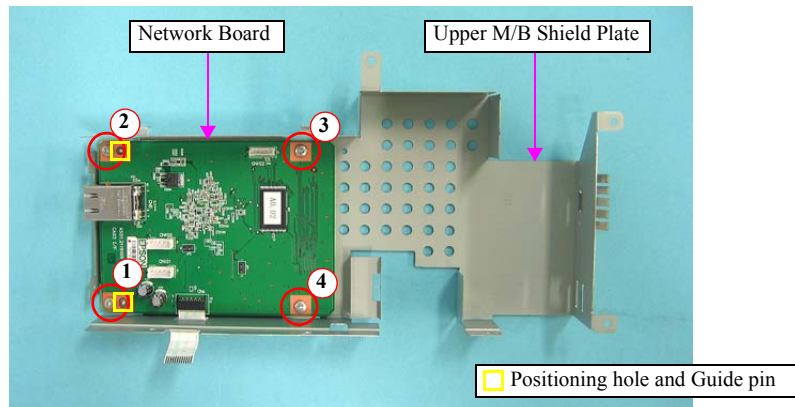

Figure 4-51. Removing the Network Board
- As shown in Figure.4-51, insert the two guide pins of the Network Board into the holes of the Upper M/B Shield Plate.
- Tighten the screws in the order indicated in Figure.4-51.